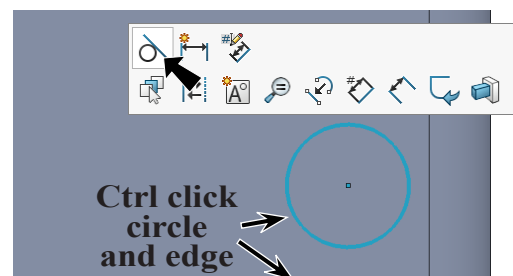

Fig. 4
Step 8. **Ctrl click circle and bottom edge of body** to select both. Release Ctrl key and click **Make Tangent**  on the context toolbar, **Fig. 4**.
Step 9. Click **Smart Dimension**  (S) on the Sketch toolbar.